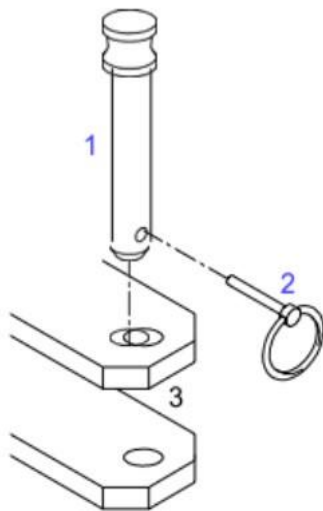

Fig 27 The coupler
Unlock and extract the safety pin (2), Figure 27;